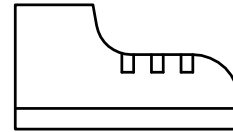

Figure 7
2. Plug a Greenlee foot switch into the Pull Connect's foot switch jack. The jack is labeled with this figure (Fig.7).